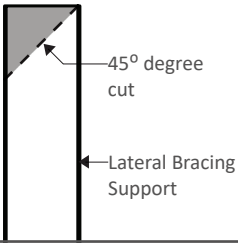

Fig. 38
3. Insert the Lateral Bracing Brackets into both ends of the cut 2" x 2" [51mm x 51mm] Lateral Bracing Support. As shown in Fig. 38.